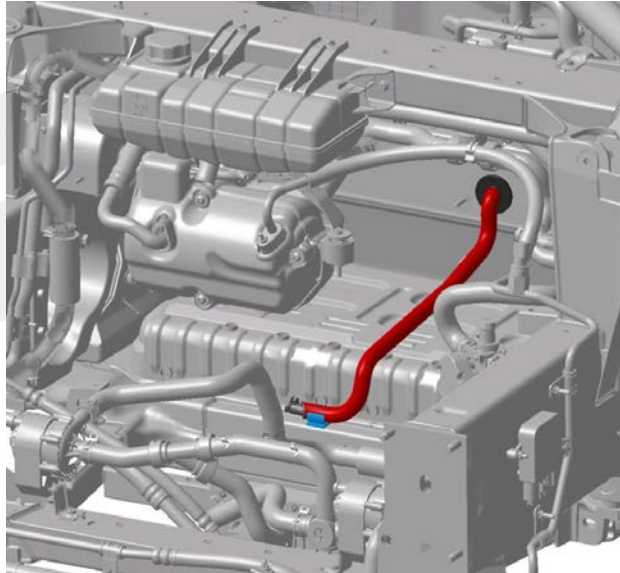

Figure 1 (Shown with components removed for clarity)
2. Inspect the drain hose to ensure that it is routed in front of the HV battery and is secured to the clip on the front subframe beneath the RH jackshaft (Figure 1):
- If the hose is properly routed but loose, secure it to the clip on the front subframe as shown in Figure 1. Reinstall all components that were removed for access and discontinue this procedure.
1. If there is no clip as shown in Figure 1, thoroughly clean the appropriate area on the front subframe with an alcohol wipe, then install a new clip.
- If the hose is easily accessible, route it as shown in Figure 1 and secure it to the front subframe. Reinstall all components that were removed for access and discontinue this procedure.
5. Locate the drain hose. Route and secure it to the clip as shown in Figure 1.